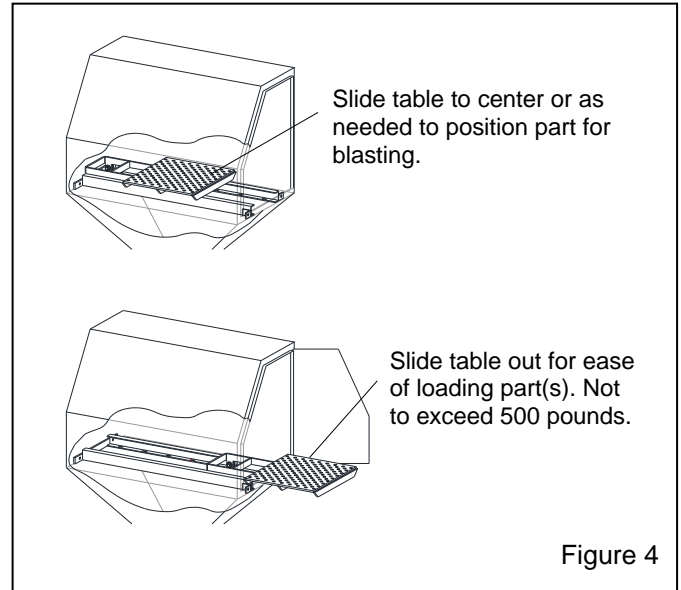

Figure 4
**3.3.1** Components of track and table assembly are shown in Figure 4. The assembly consists of: